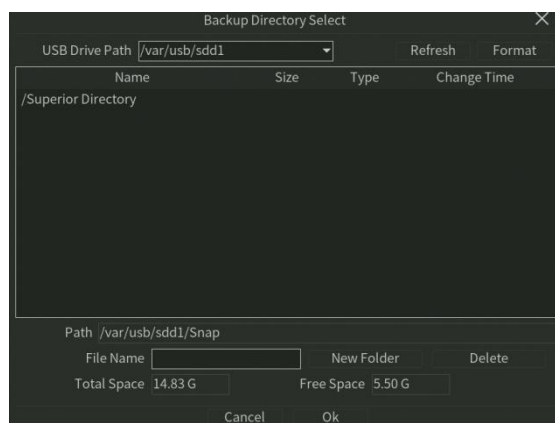

Figure 7.24 Snap Image Backup Setting
8. Click **Backup** button to start the backup(Note need plug the USB disk),as shown in figure 7.24 and 7.25.